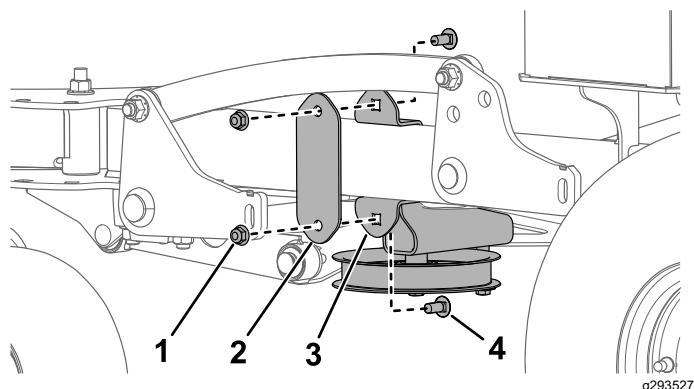

Figure 6
- Secure the mounting bracket to the left machine frame tube, between the plates welded to the tube, using the plate, 2 carriage bolts, and 2 nuts (Figure 6). Torque the bolts to 37 to 45 N·m (27 to 33 ft-lb).